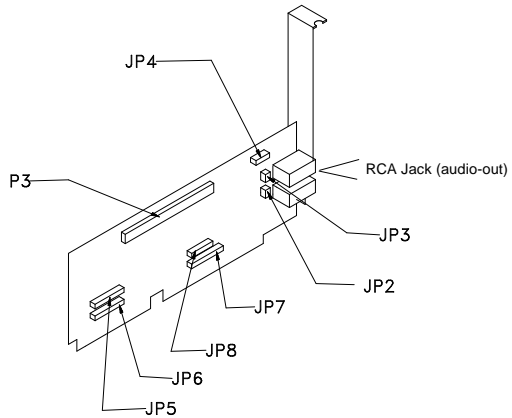

Figure 1.3: Interface Card Jumper Locations
7. Connect the other end of the three-pin audio cable to Jumper JP4 on the interface card (see Figure 1.3).
RCA (audio) jacks are provided for audio out connection to an external audio amplifier (see Figure 1.3). The red connector is for the Right connection; the white connector is for the Left connection.